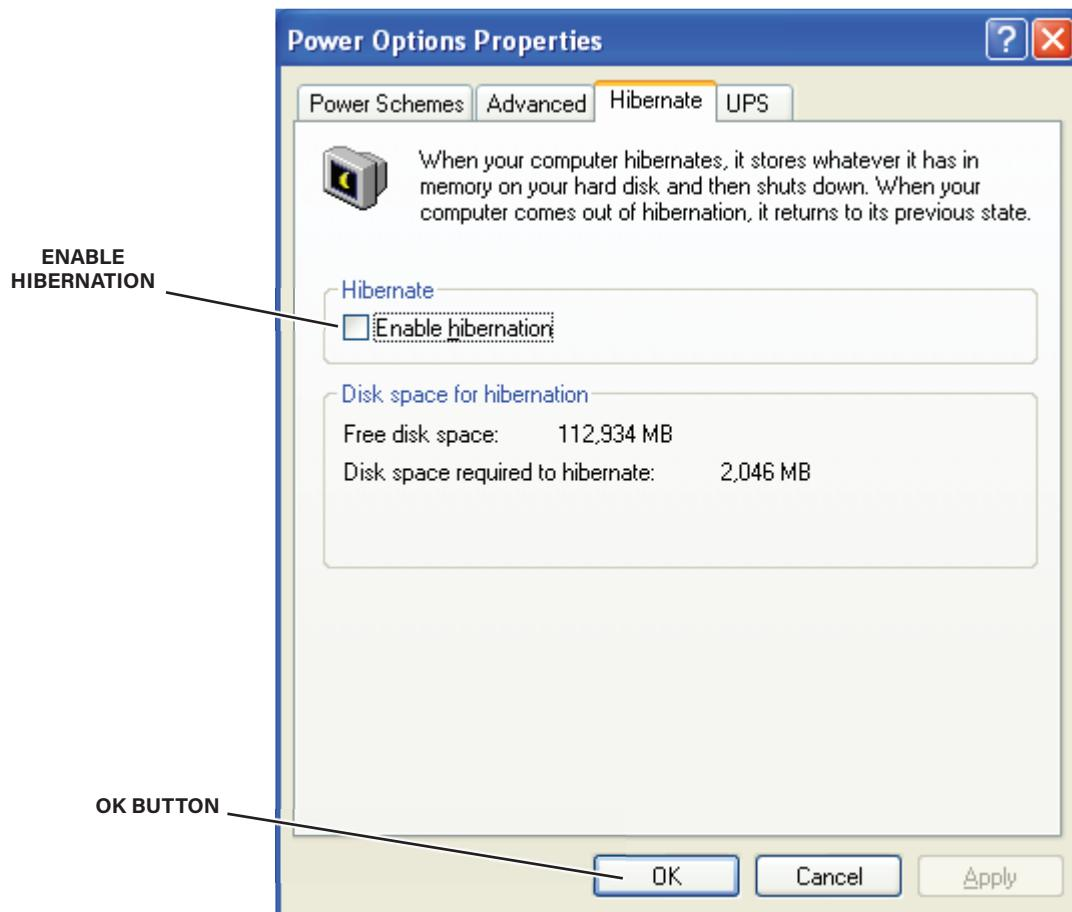

Figure 75. Hibernate Tab Displayed
- I. Verify that the Enable hibernation checkbox does not have a checkmark, as shown in figure 75. If it does, click the Enable Hibernation checkbox to remove (or deselect) the option.